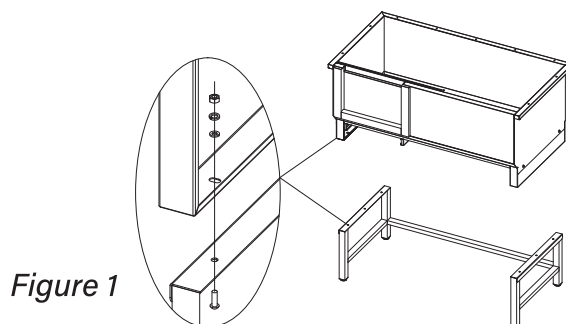

Figure 1
Connect the Tub Basin (14) with the Tub Base (18) with M8*20 Bolt x 6 (M), M8 Washer x 6 (J), M8 Spring Washer x 6 (K), M8 Nut x 6 (L), by 5mm (M8) Hex Wrench (O). (See Figure 1)